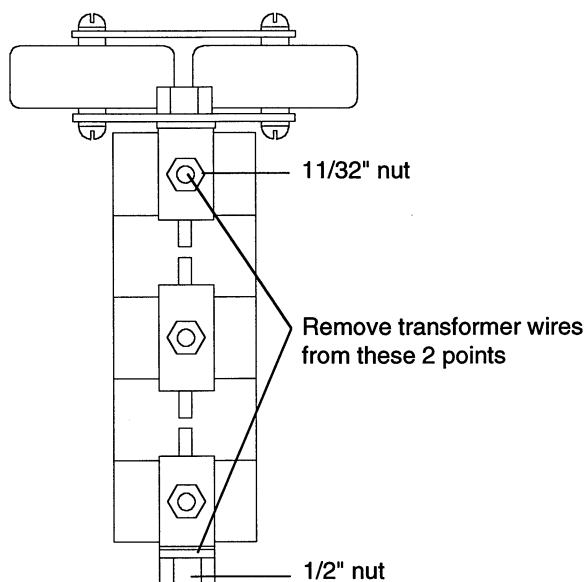

Figure 1 Spark Gap Assembly
3. Using the 11/32" nut driver and the 1/2" nut driver, remove the 2 transformer wires that are attached to the spark gap assembly (Figure 1). Save the hardware.